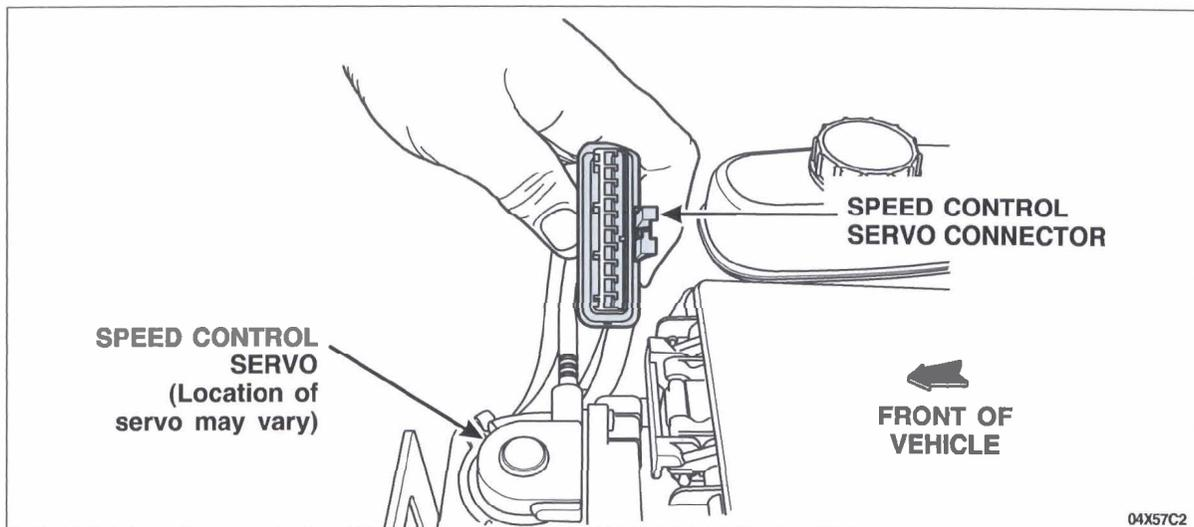

FIGURE 3
- If brake fluid is present, **DISCONNECT THE SPEED CONTROL SERVO AND INSPECT THE VEHICLE HARNESS CONNECTOR FOR HEAT DAMAGE.** See Figure 3.